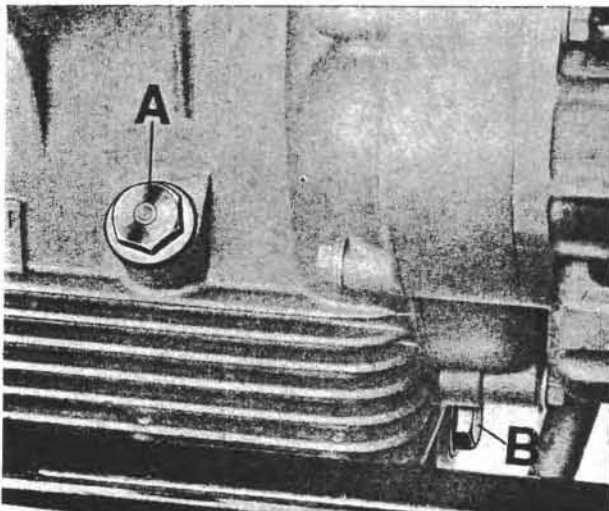

Fig. 7
- drain oil from sump by unscrewing oil drain plug (see B on Fig. 7).
- oil filler plug (see A on Fig. 7).